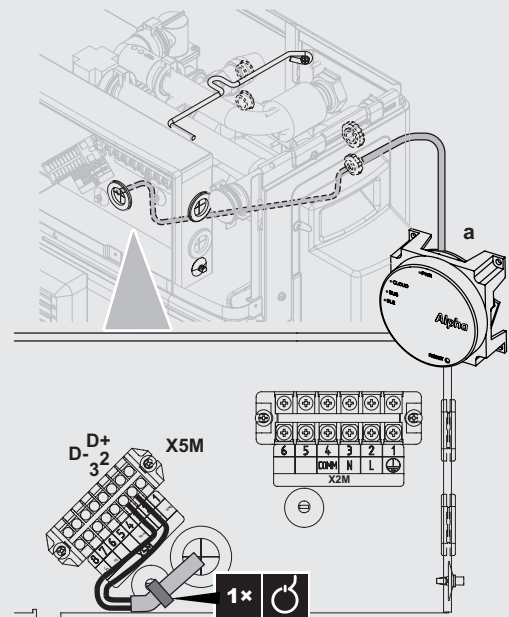

Fig. 5.15
2. Connect the Smartech boiler receiver unit (a shown in Fig. 5.15) to the heat pump (terminal block X5M terminals 2 and 3) and secure in position with the cable tie.